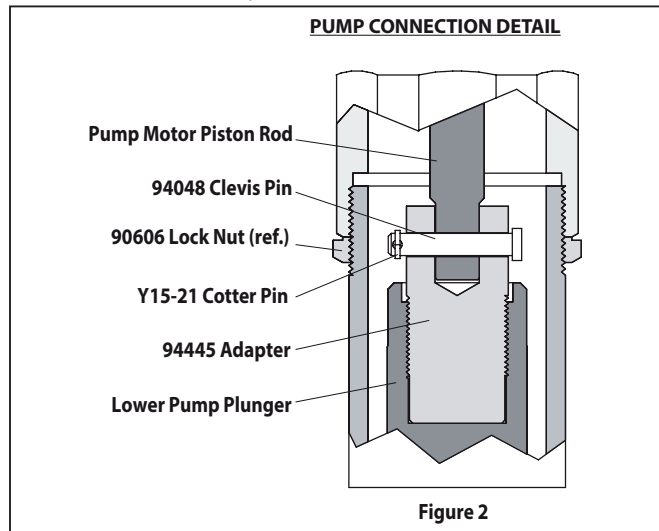

Figure 2
1. Loosen (90606) lock nut and unscrew the entire pump from the air motor. This will expose (94445) adapter (see figure 2).